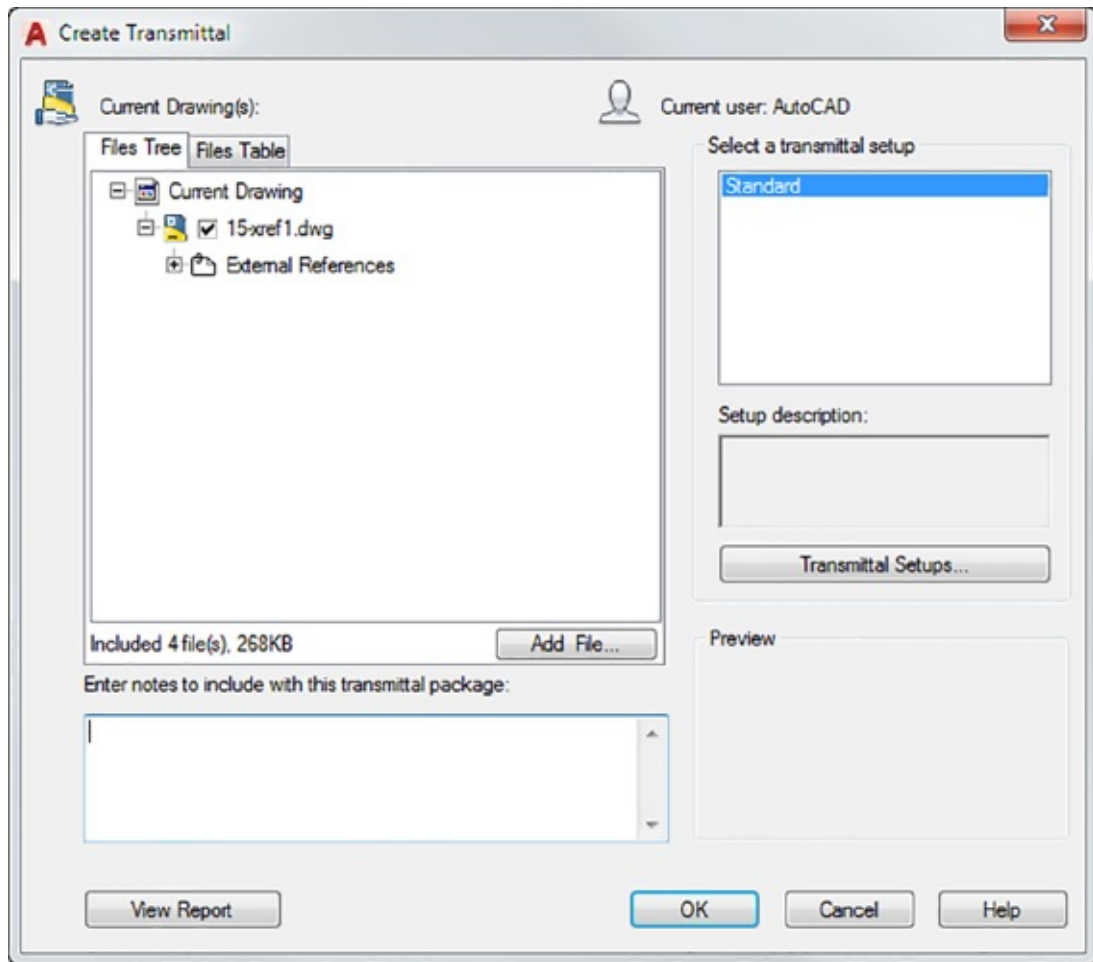

FIGURE 25.1 Creating a transmittal
1. In AutoCAD, open 15-xref1.dwg from the Chapter 15 sample files and then choose Publish > eTransmit from the Application menu to open the Create Transmittal dialog box (see Figure 25.1). If you've edited the file before choosing eTransmit, you will see a message telling you that you must save the drawing before continuing.